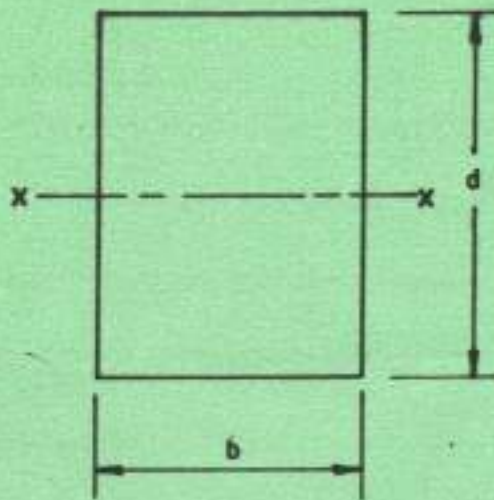

Fig. 3
- (b) Figure 3 shows a cross section through a rectangular beam. Derive the maximum horizontal shear stress. Take the maximum shear force as Q and hence sketch the horizontal stress distribution diagram. (8 marks)